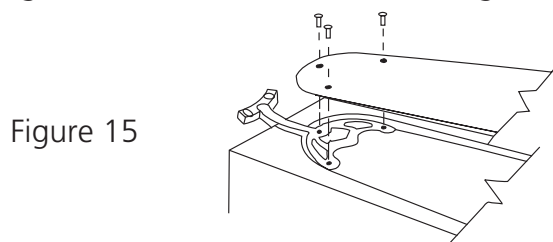

Figure 15
1. Attach the wood blades to the blade brackets using three screws for each blade. See Figure 15.